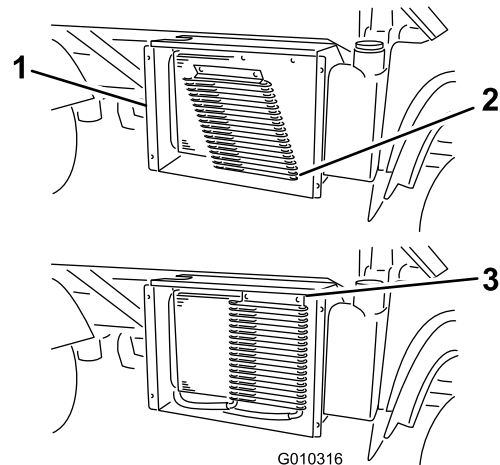

Figure 53
3. If equipped with a high flow hydraulic kit, rotate the latches and pivot the oil cooler away from the radiator (Figure 53).